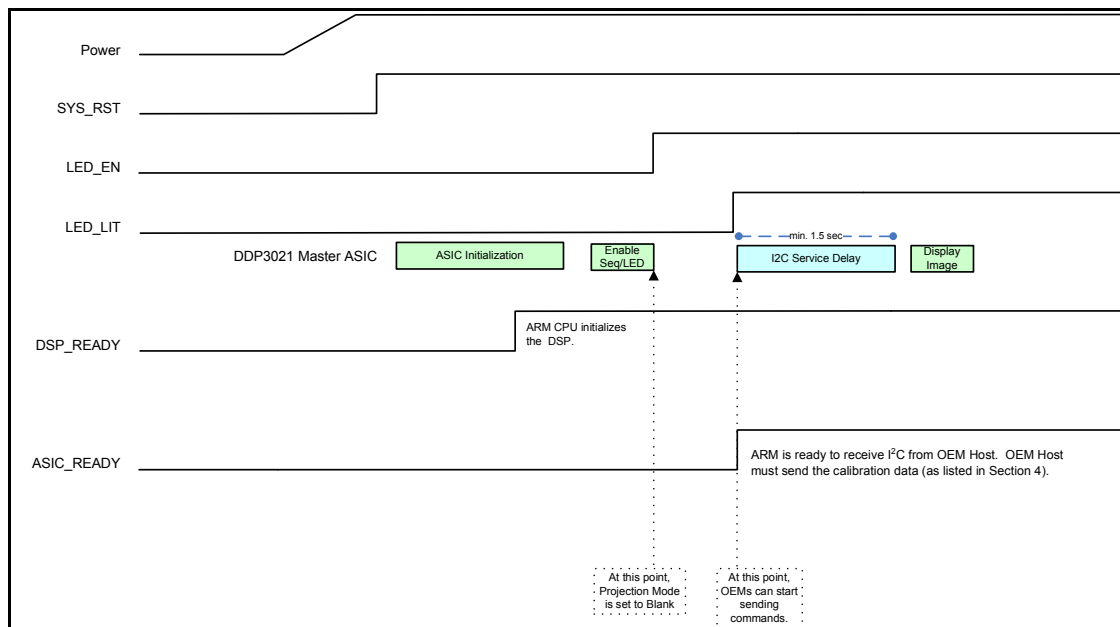

Figure 1: LED System Power-Up Timeline
- Disable Calibration Mode and then Enable Color Processing Mode. (DSP Color Manager Control I2C Command: 0x87. OEM should enable as described in *Figure 1: LED System Power-Up Timeline*.) The same command can be used to disable calibration and enable color processing.